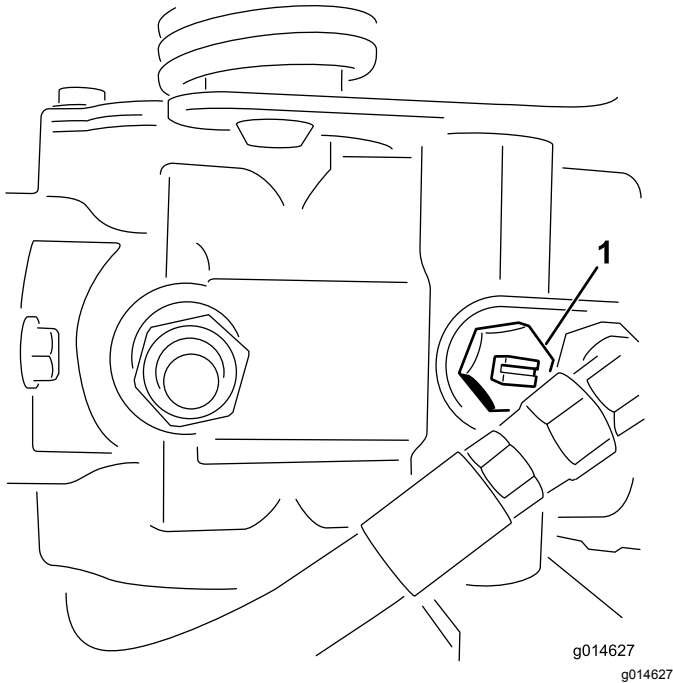

Figure 37
1. Locate the bypass valve on the pump and rotate it so that the slot is vertical (Figure 37).
2. Before starting the engine, close the bypass valve by rotating it so that the slot is horizontal (Figure 37). Do not start the engine when the valve is open.